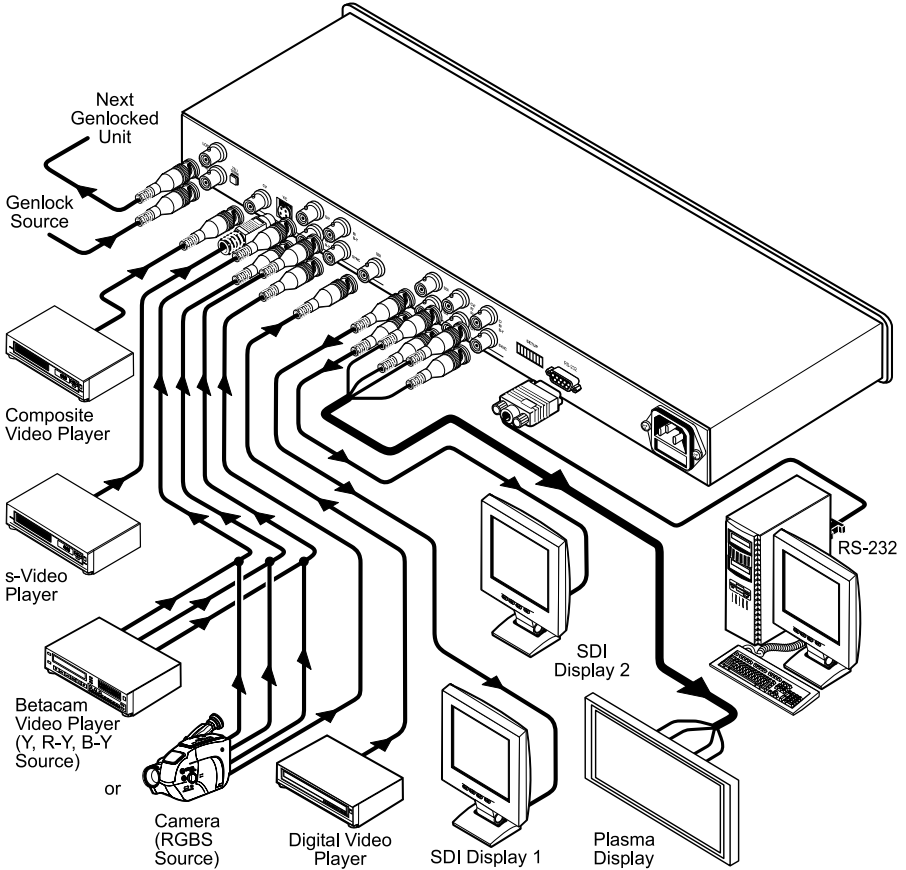

Figure 3: Connecting the FC-4001 Format Converter / TBC
You can use your **FC-4001** to convert a composite video, s-Video, component video (YUV or RGB/S), or SDI signal to1 two SDI outputs **and** either: Component video, **or** Composite video **and** s-Video simultaneously. For example, as the illustration in Figure 3 shows, an RGBS output2 that connects to a plasma display.
8. Connect the power cord5 (not illustrated in Figure 3).
The example in Figure 3 illustrates how to connect your **FC-4001**: